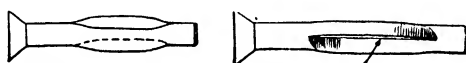

Fig. 52. Construction of Rawl Drives
**Rawl Drives.** A one-piece device, shown in Fig. 52, for making attachments to masonry and kindred substances. To install, drill a hole of the exact size of the drive, insert the latter and force it home with a hammer, as you would a nail. The hole must be deep enough so that the end of the drive does not reach bottom. These drives will not hold in crumbly, weak or yielding substances.